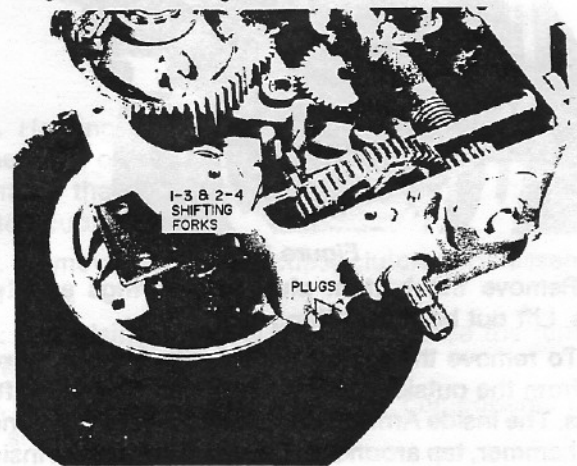
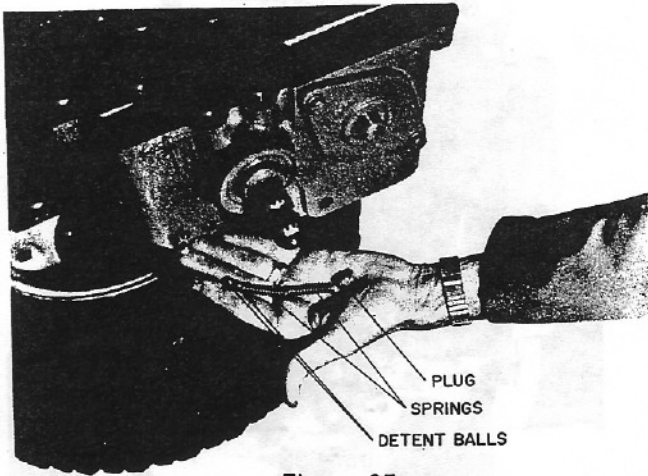
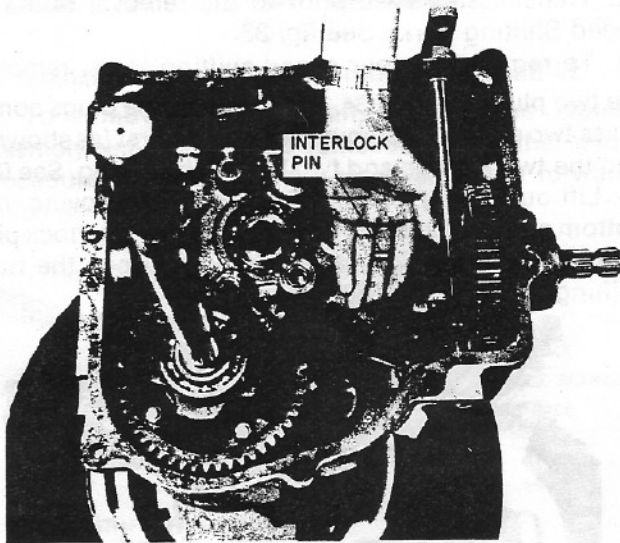

Figure 34
Figure 35
Figure 36
43. To remove the four speed shifting forks, remove the two plugs. See fig 34. Use caution, the plugs compress two springs. Remove the top plug first (as shown) and the two springs and two balls behind plug. See fig 35. Lift out the top shifting fork. Before removing the bottom plug and shifting fork, remove the interlock pin from the transmission case located between the two shifting forks. See fig 36.